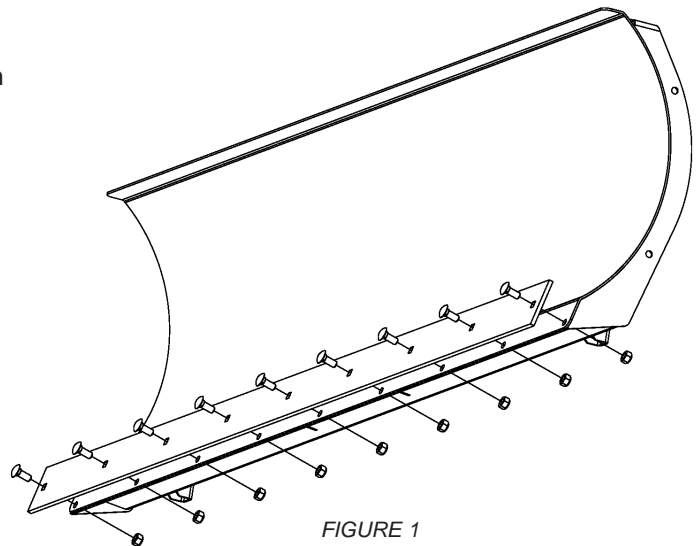

FIGURE 1
1. Attach the wear bar to the plow blade as shown in figure 1. Place 10mm dia carriage bolts through each of the square holes in the wear bar, and through their respective holes on the blade. Terminate with a 10mm lock nut.